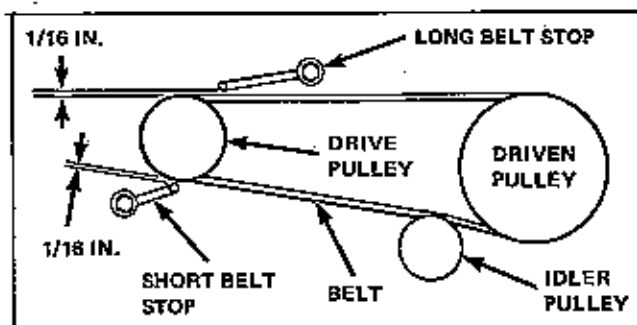

FIGURE 5
and install the drive belt. Be sure the belt is properly seated in the pulleys. There must be 1/8 inch clearance between the top belt stop and 1/4 inch clearance between the bottom belt stop and the belt when the drive is engaged. (See Figure 5)
3. Check the adjustment after the bolts have been tightened (See Figure 5).